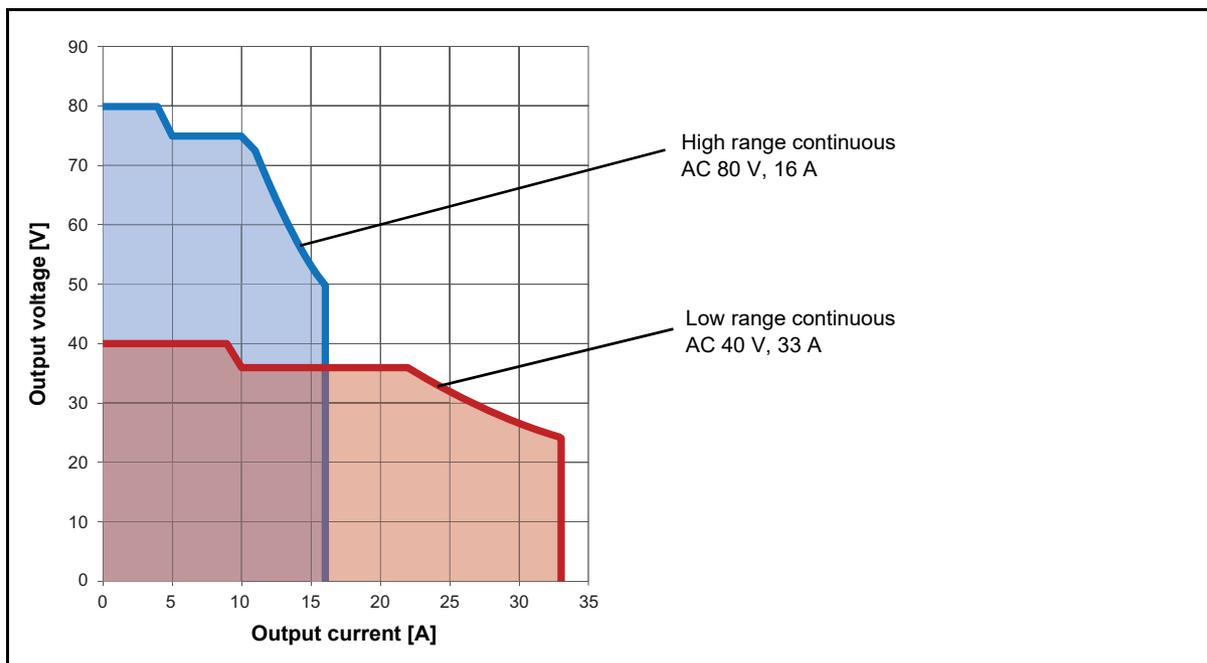

Figure 15-4: Permitted operating range 3 x AC 80 V 16 A
4. See Figure 15-4: "Permitted operating range 3 x AC 80 V 16 A" on page 261
3. See Figure 15-4: "Permitted operating range 3 x AC 80 V 16 A" on page 261